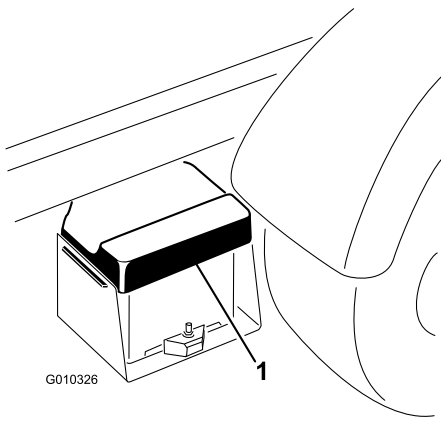

Figure 5
1. Remove the battery cover from the battery case (Figure 5).